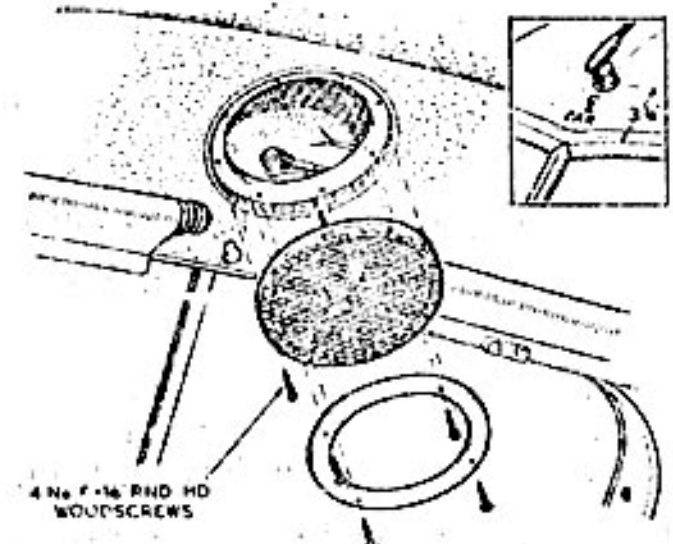

Fig. 1
2. Drill a $\frac{1}{2}$ " diameter hole in roof panel. See Fig 1. (inset)
NOTE : Aerial lead-in and loudspeaker leads are fitted to all cars (See Fig. 1)
4. Connect lead to loudspeaker and mount loudspeaker, grille and finisher as shown in Fig. 1.
**AERIAL & FRONT LOUDSPEAKER MOUNTING (See Fig. 1.)**
2. Drill a $\frac{3}{4}$ " diameter hole in roof panel. See Fig. 1. (inset).
NOTE: Aerial lead-in and loudspeaker leads are fitted to all cars. (See Fig. 1.)
4. Solder tags to lead, connect to loudspeaker and mount loudspeaker, grille and finisher as shown in Fig. 1.